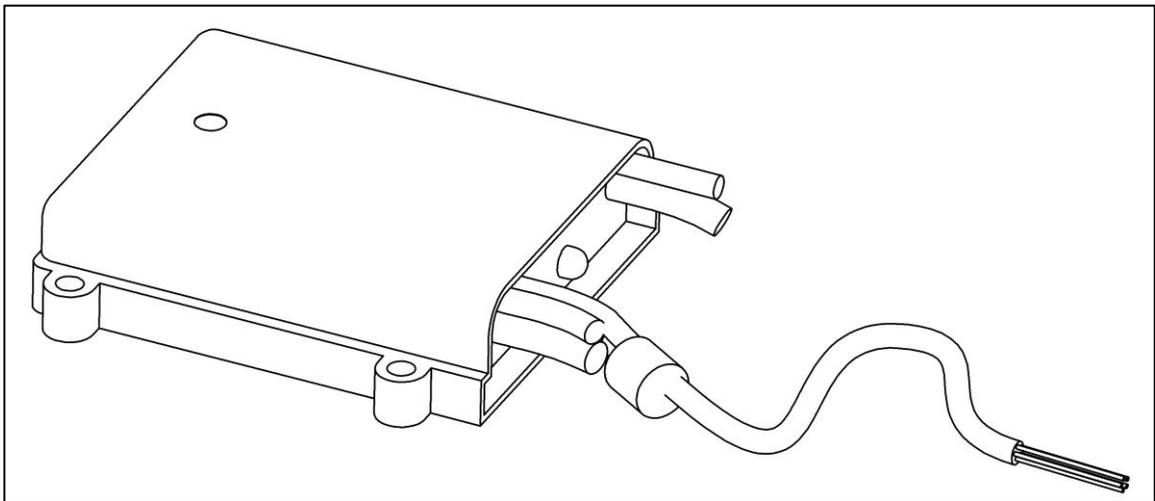

Fig. 24
- Strip the end of the control unit cable section with a red marking for connecting the handheld control (see Fig. 24).